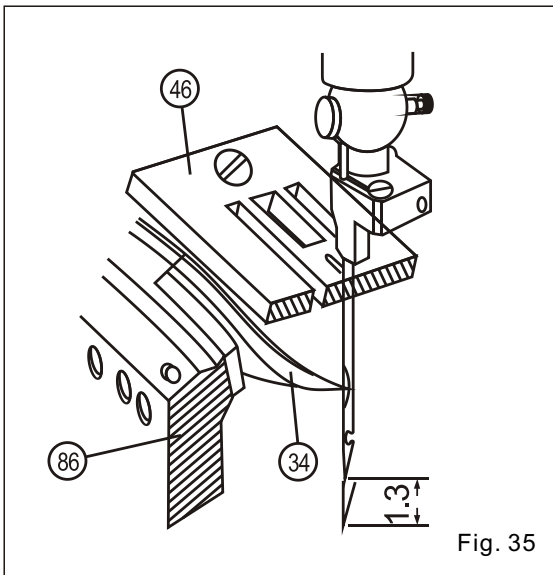
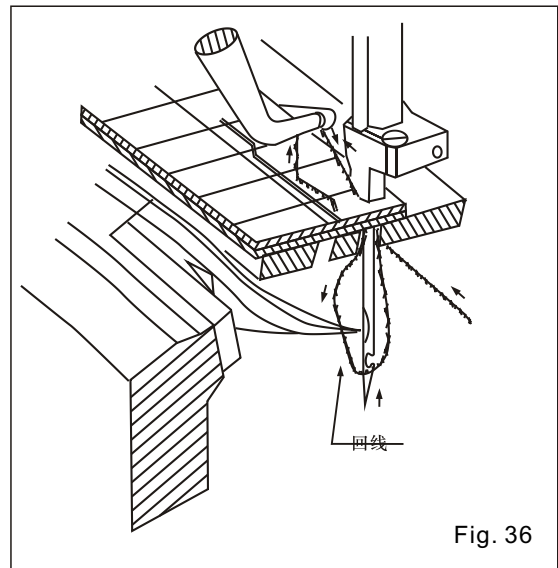

Fig. 35
Fig. 36
(3) When needle bar is fixed in the lower dead center, move the thread loading disc to make both needle and thread loading disc in the center of the location hole (No. 49 in Fig. 20). Make the machine running towards the working direction by hand. When needle bar rises up to 1.3mm above the lower dead center, the lower thread hook will go to the center of the needle at a same time, as indicated in Fig. 35. When needle bar passes through this position, the thread will shape into a circle. As indicated in Fig. 36, lift the needle bar 1.3mm to make the point of lower thread hook accurately in the center of the concave of the needle. As indicated in Fig. 35.